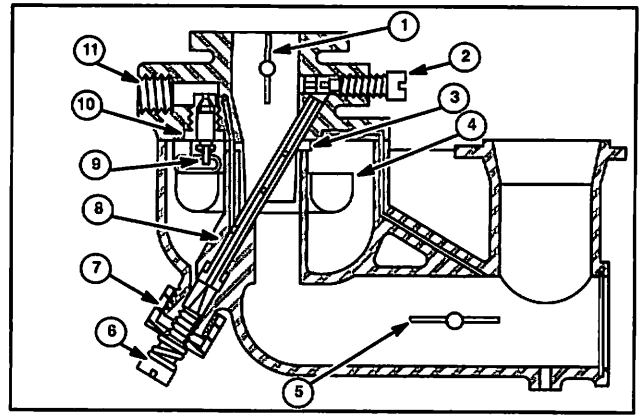

Fig. 143
1. Assemble venturi (3) and venturi gasket, when used, to lower body. Be sure holes in venturi and venturi gasket are aligned. Most models do not have a removable venturi.
6. Screw in emulsion tube (8) with Tool #19280, Carburetor Screwdriver, being careful that emulsion tube tip enters recess in upper body, Fig. 143. Tighten emulsion tube securely.